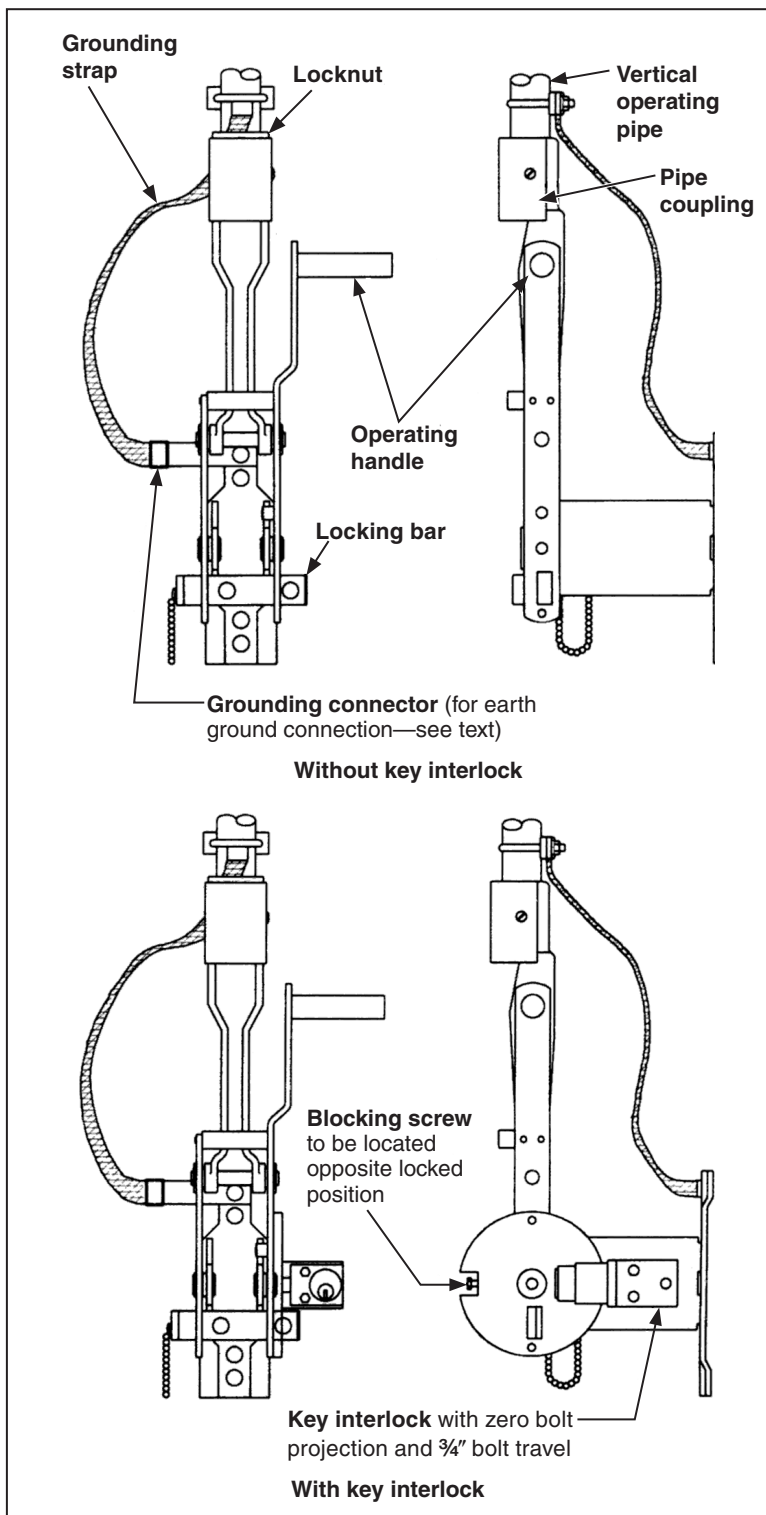

Figure 12. Operating handle assembly.
- f. Make sure that the switch poles are fully closed and that the operating handle is held in its closed position by means of the locking bar. See Figure 12.
Use the vertical operating pipe as a plumb line to locate the operating handle radially to the pole—see Section D-D on the erection drawing. Then, drill two  $\frac{1}{16}$ -inch diameter holes at the locations indicated on the erection drawing, and mount the handle using  $\frac{5}{8}$ -inch threaded rod or through-bolts (not-furnished). At the same time, use one of the operating-handle mounting bolts to attach one end of the grounding strap (the end with the grounding connector attached) to the handle mounting plate. See Figure 12.